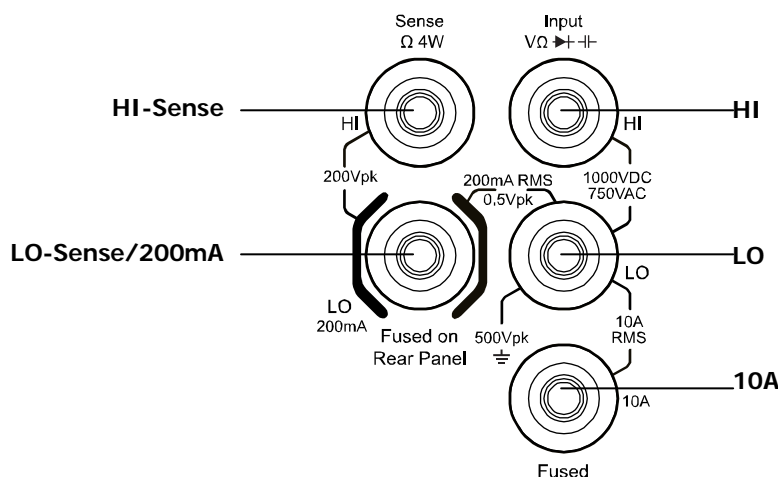

Figure 2-1 Zero offset test connection
2. Use a 4-terminal short-circuiter to short-circuit the HI-LO and Sense HI-LO terminals for DC voltage and resistance measurements (as shown in Figure 2-1). Open the circuits of both the 200mA and 10A current input terminals for current measurement.